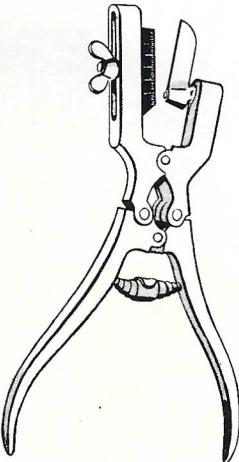

Fig. 48
18. Take cutters (Fig. 48) and cut out the number of buttonholes needed, making sure that the round part of the cut buttonhole is about half an inch away from the edge of the garment (Fig. 49).